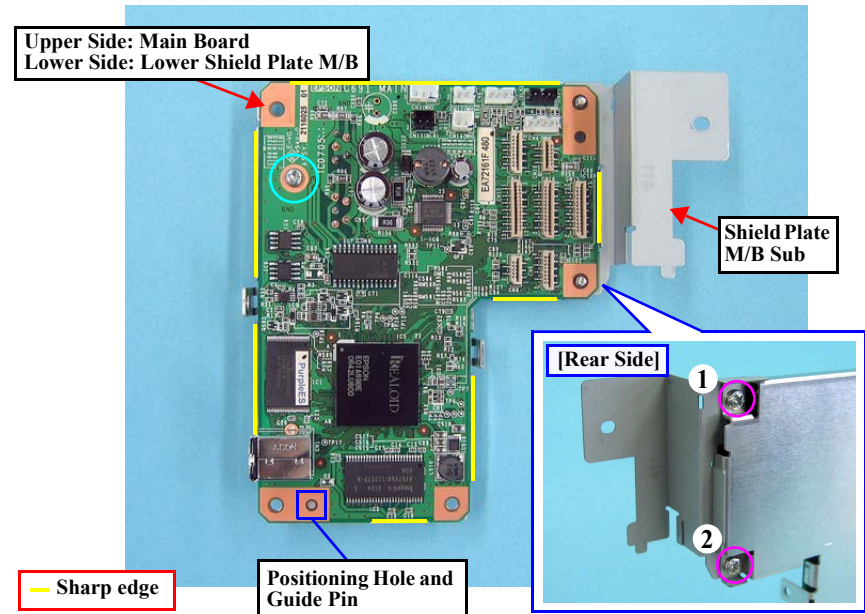

Figure 1-28. Removing the Main Board
- When installing the Main Board, match the positioning hole with the guide pin shown in Fig.1-28.
- Tighten the screws in the order given in Fig.1-27 (p.29), Fig.1-28.